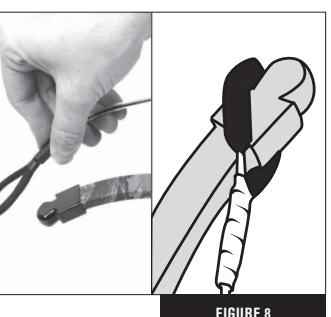

FIGURE 8
1. Attach the stringer rope to each limb tip as shown in (Fig. 8).